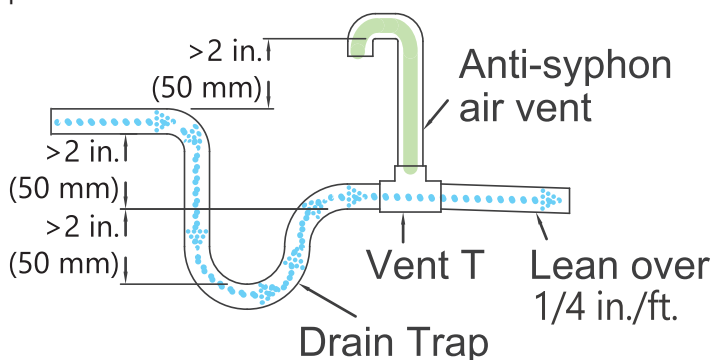

Fig. 2-2: Air Vent Arrangement
- Fig. 2-2 shows how to trap or plug all drains during